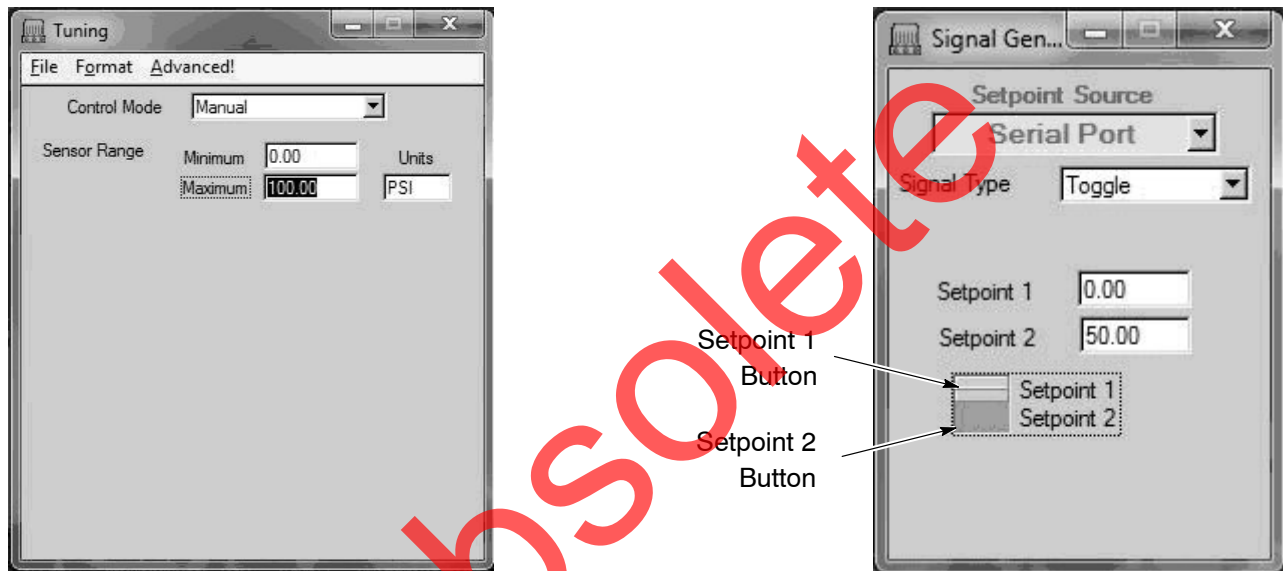

Figure 15 Tuning and Signal Generator Windows
3. See Figure 15. In the *Tuning* window, adjust the setting as follows:
1. With the *Signal Generator* and *Plot* windows in view, click on the *Setpoint 1* button in the *Signal Generator* window (see Figure 15), and wait until the feedback reaches 0 (PSI).